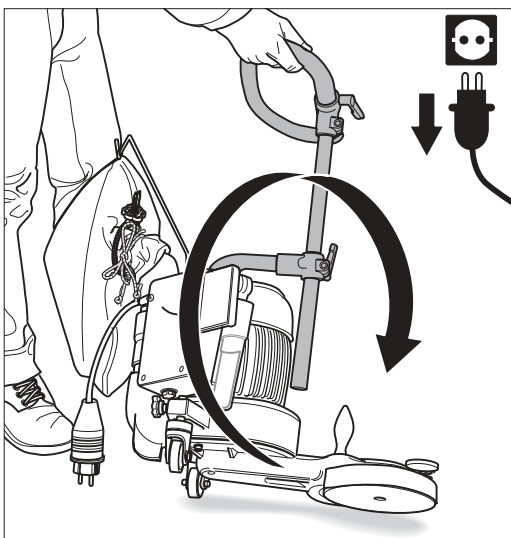

Fig. 54: Tilt the UNICO over to the **left-hand** side and set it down carefully.
- 3 Place the UNICO on its side by grabbing the machine by the handlebar on the right-hand side and then tilt the machine over to the **left-hand** side (Fig. 54) and set it down carefully.